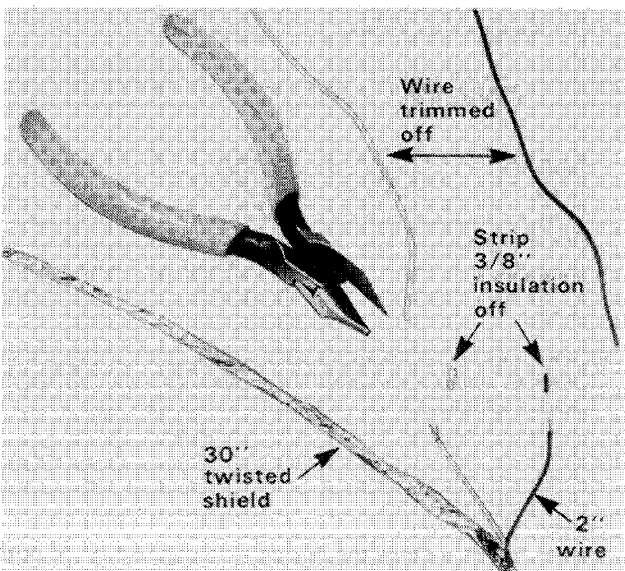

Figure 3.39 – Trim Unnecessary Insulated Wire
- **Step No. 4** — Trim both insulated wires to 2-inch lengths. Then strip approximately 3/8 inch of insulation from the end of each wire. The shield strand is left at its full 30-inch length. (Refer to Figure 3.39.)